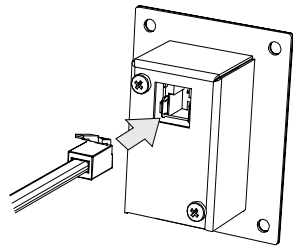

Figure 2-4 Connecting Cable to the S400 Remote Switch
5. Connect the other end of the telephone cable to the remote switch as shown in Figure 2-4.